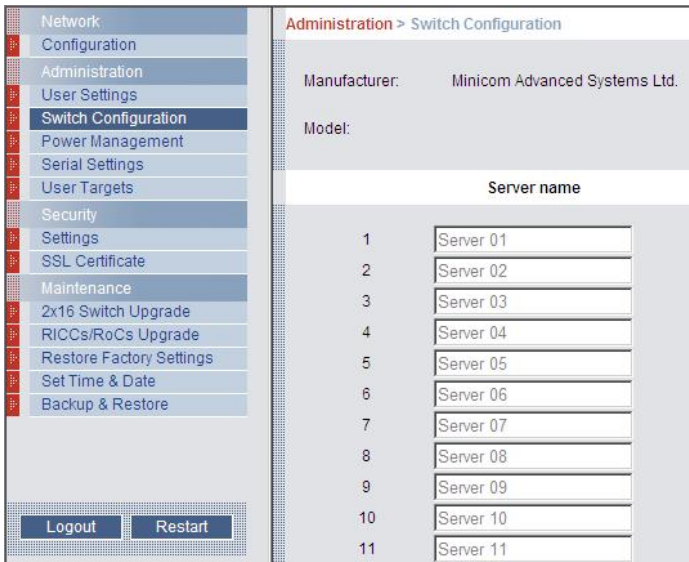

Figure 17 Switch Configuration
1. From the menu click **Switch Configuration**. The Switch Configuration window appears, see Figure 17.
1. From the menu, click Power Management. The Power Management window appears, see Figure 17.